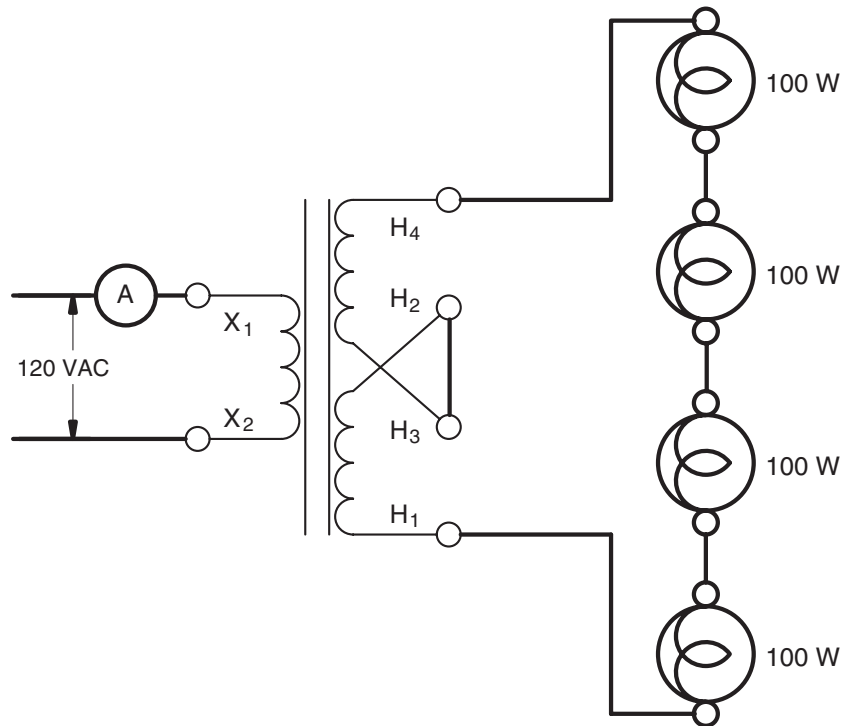

Figure 20-9 The ammeter is reconnected in the primary winding.
44. Reconnect the ammeter in series with the primary as shown in Figure 20-9.